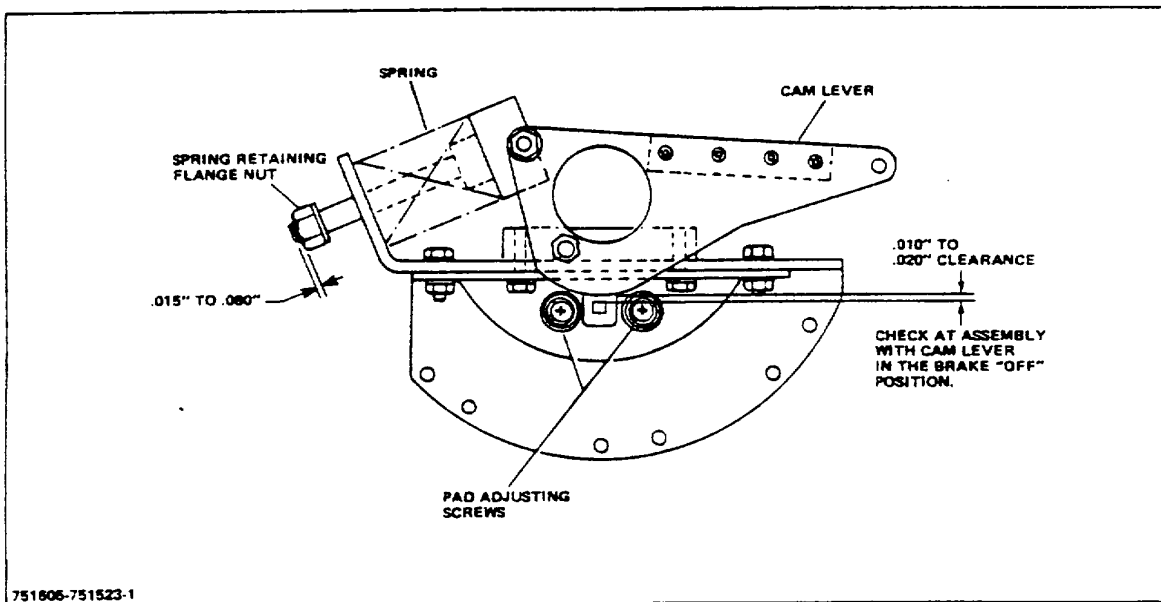

Figure 3-1. Parking Brake Adjustment
1. Should the parking brake require adjustment, release parking brake by tightening spring retaining nut (Fig 3-1) so cam lever is in the BRAKE OFF position.
2. Use a large screwdriver and adjust the pad adjusting screws (Fig 3-1) until screws are tight and brake pads contact the disc; then back off screws 1/4 turn.
3. Turn spring retaining nut so it is .015" to .080" from end of the stud (Fig 3-1).
4. When the parking brake cable requires adjustment, first tighten spring retaining nut(Fig 3-1) on the stud until tension is released on the brake cable. Then remove yoke pin (Fig 3-2) and remove yoke from seat hinge assembly. Loosen jam nut and turn yoke or rod end clockwise to shorten cable length or counterclockwise to lengthen it. Tighten the jam nut and install yoke to seat hinge assembly with yoke pin and cotter pin. Back off the spring retaining nut so it is .015" to .080" from end of stud (Fig 3-1).